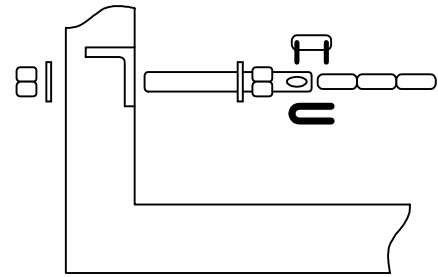

Figure 10
1. Secure the chain brackets to each end of the gate so that the brackets are level with the top chain knockouts in the operator housing. Brackets should be attached to the inside of the frame so that the chain bolts, when attached, do not protrude beyond the frame of the gate (figure 10).
4. Attach the chain to the chain bolts using the master links supplied, and then attach the chain bolts to the chain brackets using the hardware supplied (figure 10). Make any adjustments to the chain length at this time.